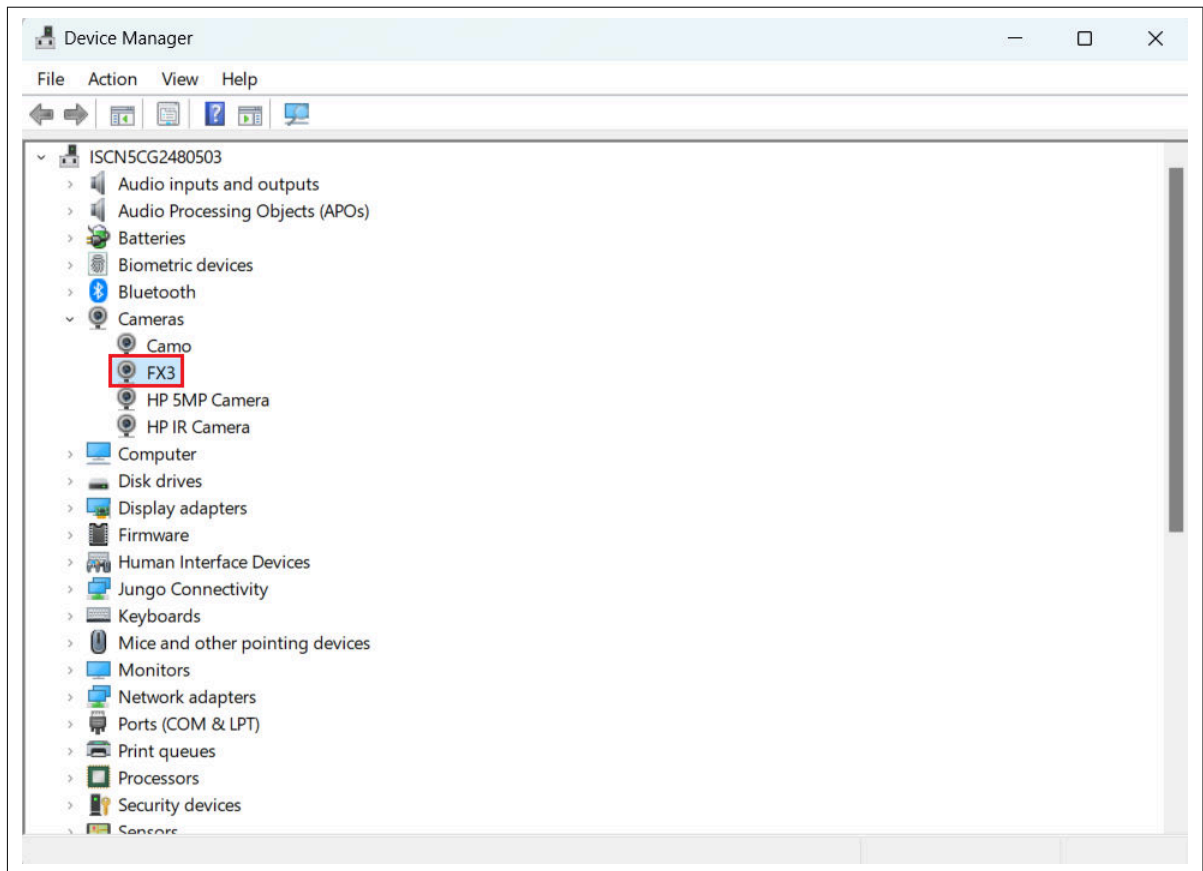

Figure 55 EZ-USB™ FX3 coming under Camera in Device Manager
8. If you remove the X502 jumper from your 6M board, note the **FX3** device under **Cameras** in the Device Manager, as shown in Figure 55. Before or after removing the X502 jumper, disconnect and reconnect the power to the 6M kit to see the devices listed under these tabs in the Device Manager